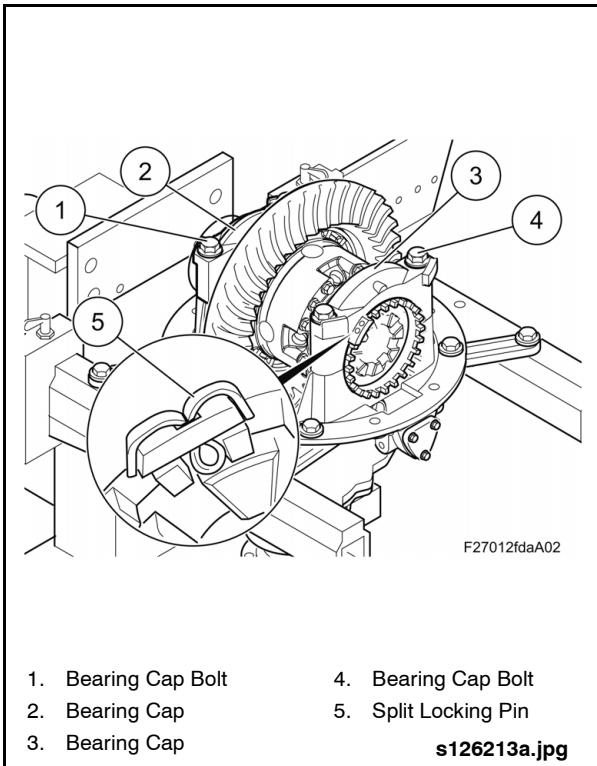

Fig. 2-48: Removing Bearing Caps
1. Remove the split locking pins for the bearing adjusters on both sides. See "Fig. 2-48: Removing Bearing Caps" on page 43.